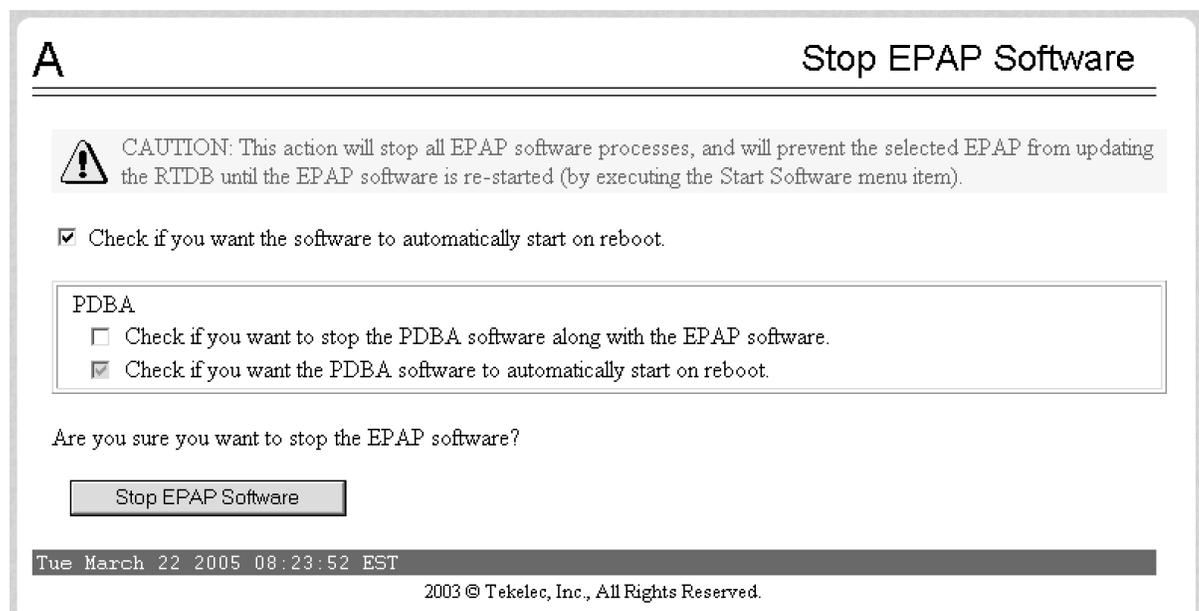

Figure 6: Stop EPAP Software
4. In the Stop EPAP Software screen as shown in Figure 6: Stop EPAP Software, click **Stop EPAP Software**.